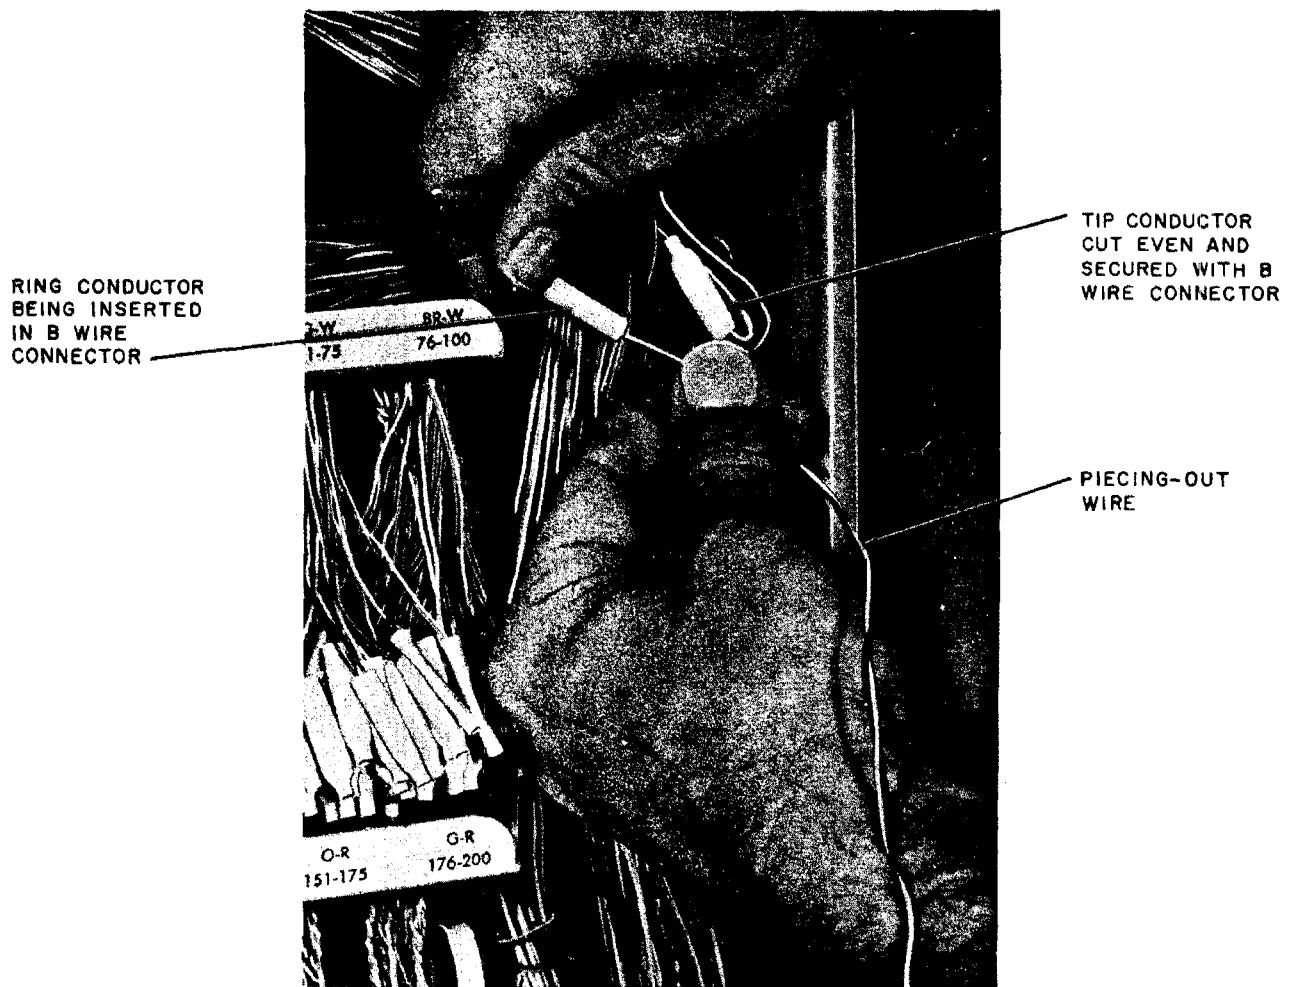

Fig. 13—Piecing-Out *IN* Cable Pair
6.02 The procedures for piecing-out the *IN* cable pair (Fig. 13) are identical to the procedures outlined in 6.01, except cross-connecting wire may be used as the piecing-out wire if no wire having the same-colored insulation or gauge as the *IN* cable pair is available. *Never use an odd-colored wire.*